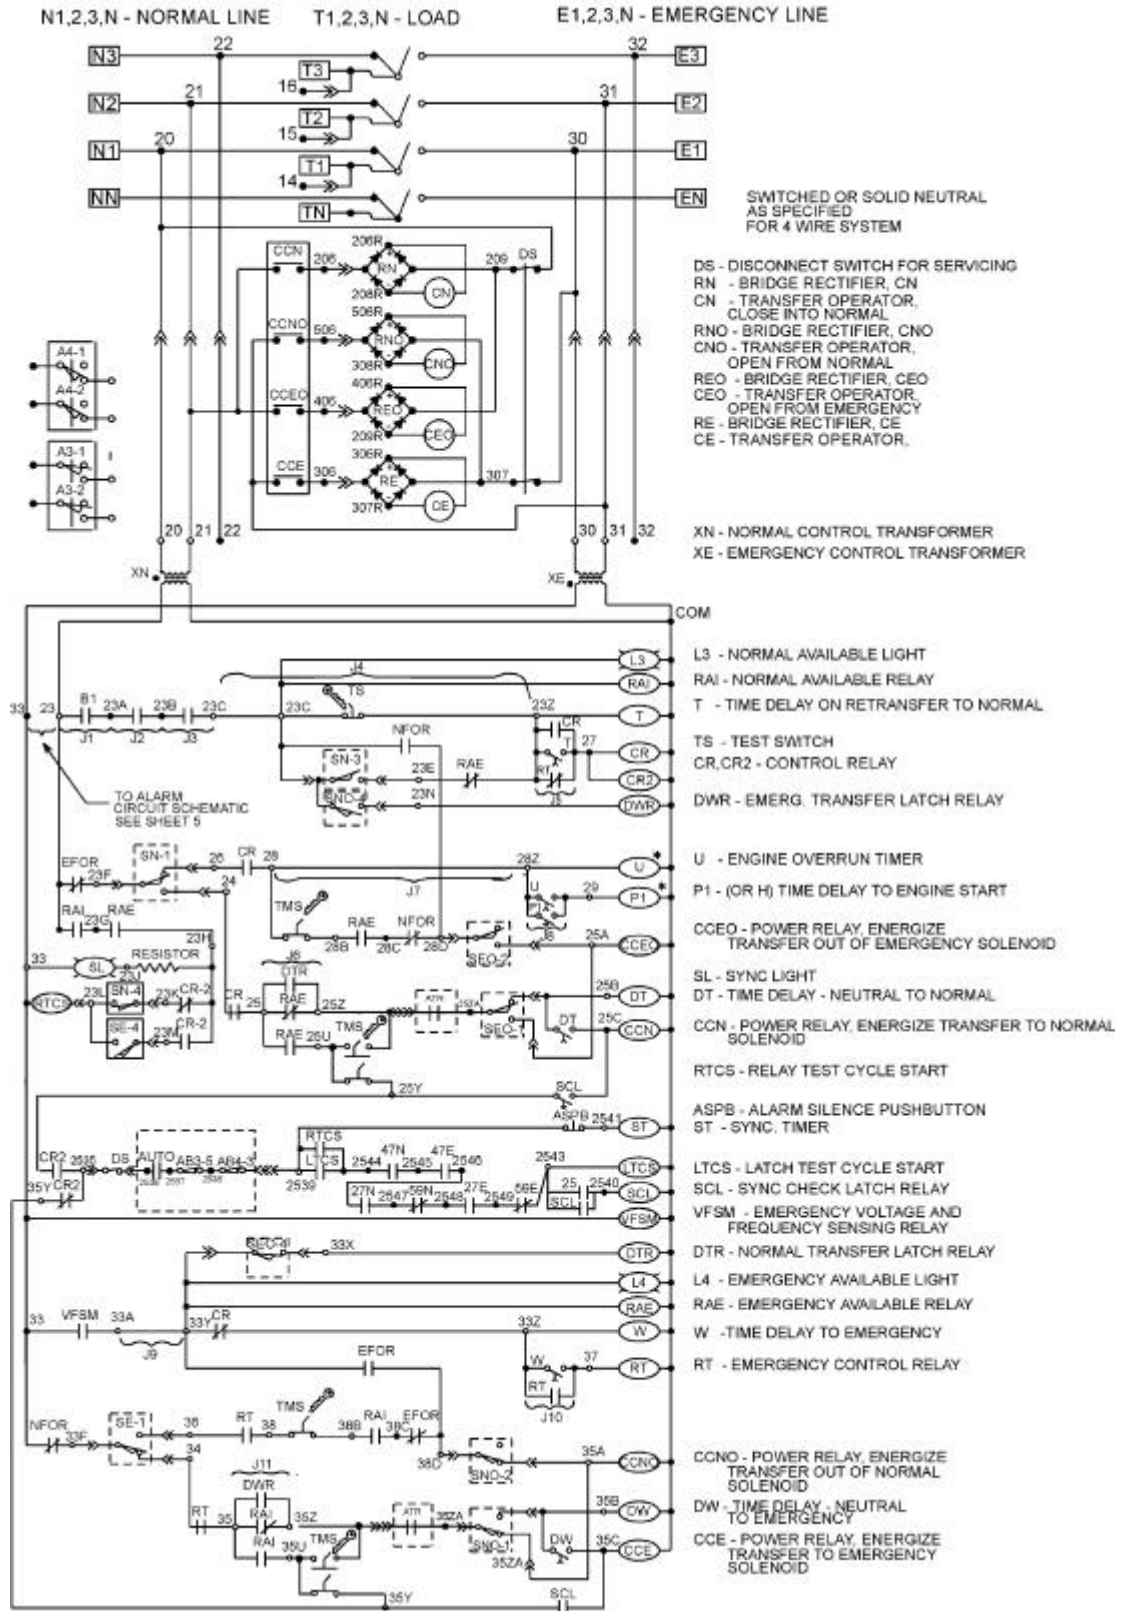

Figure 4
*Figure 4* is a typical schematic diagram of a Zenith closed transition transfer switch. The information supplied with the transfer switch includes a schematic diagram and description of operation of all accessories provided.